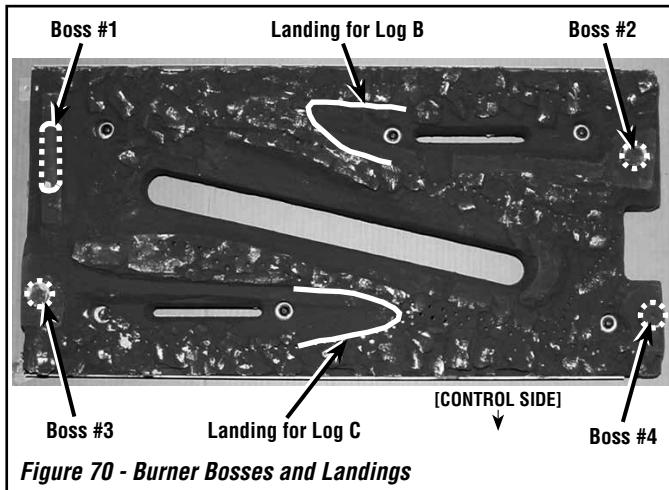
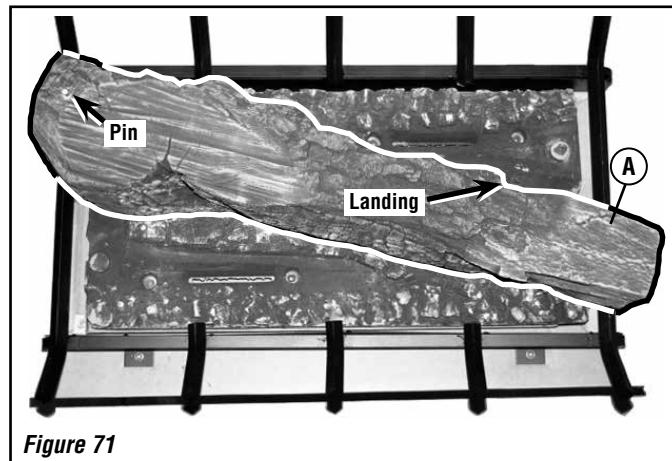
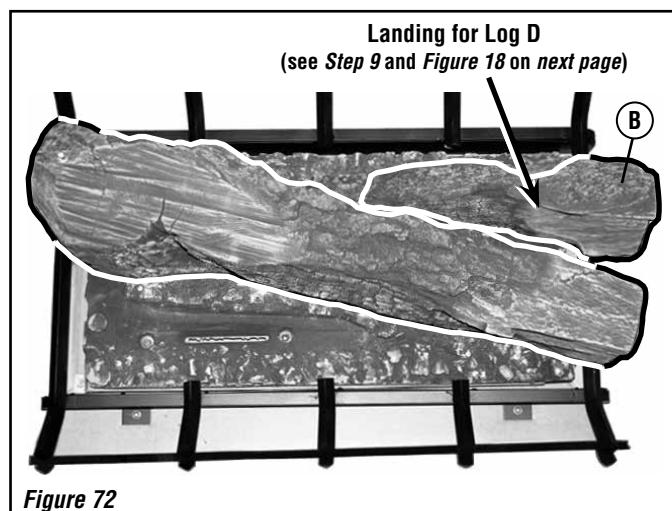

Figure 70 - Burner Bosses and Landings
Figure 71
Figure 72
6. Place rectangular notches on underside of **Center Log A (*Figure 71*) over **Boss #1** and **Boss #4** (*Figure 70*).**
7. Place notch on underside of **Right Rear Log B (*Figure 72*) over **Boss #2** (*Figure 70*).**
Place opposite end of **Right Rear Log B** (*Figure 72*) on **Landing for Log B** (see *Figure 70*).
8. See *Figures 70 and 73*. Place notch on underside of **Left Front Log C over **Boss #3**.**
Place opposite end of **Left Front Log C** on **Landing for Log C** (see *Figure 70*).
The middle section of **Log D** will rest on the landing on **Log B** (labeled as “**Landing for Log D**” in **Figure 72**).